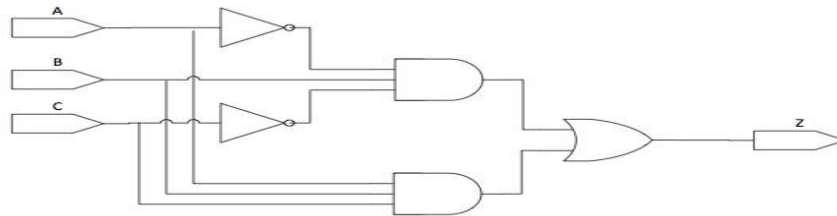

Figure 1
3. For the logic circuit in Figure 1, compute the following parameters: